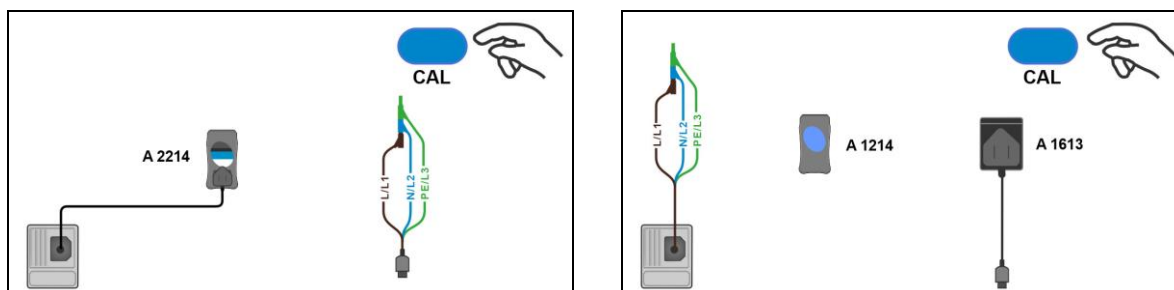

Figure 5.26: Connections for compensation of Test cable / Plug cable resistance (A 2214 (left), A 1214 (right)) – Step 2 – (RING R1+RN, R1+R2)
- ❑ **Connect** Test cable / Plug cable to the instrument and short test leads together, or connect Plug cable to A 2214 calibration socket or A 1613 Short-circuited socket, as indicated on *Figure 5.26*.